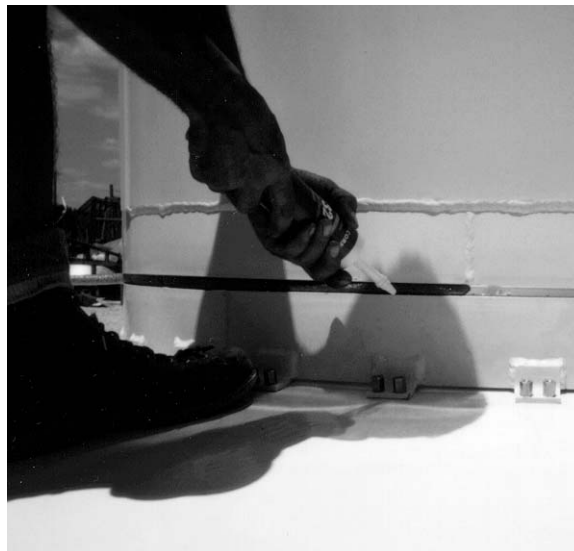

Figure 3-41: RTV Sealant
- Step 5* Apply the supplied RTV sealant around the outer perimeter of the reflector-mounting ring/enclosure assembly junction as shown in Figure 3-41.